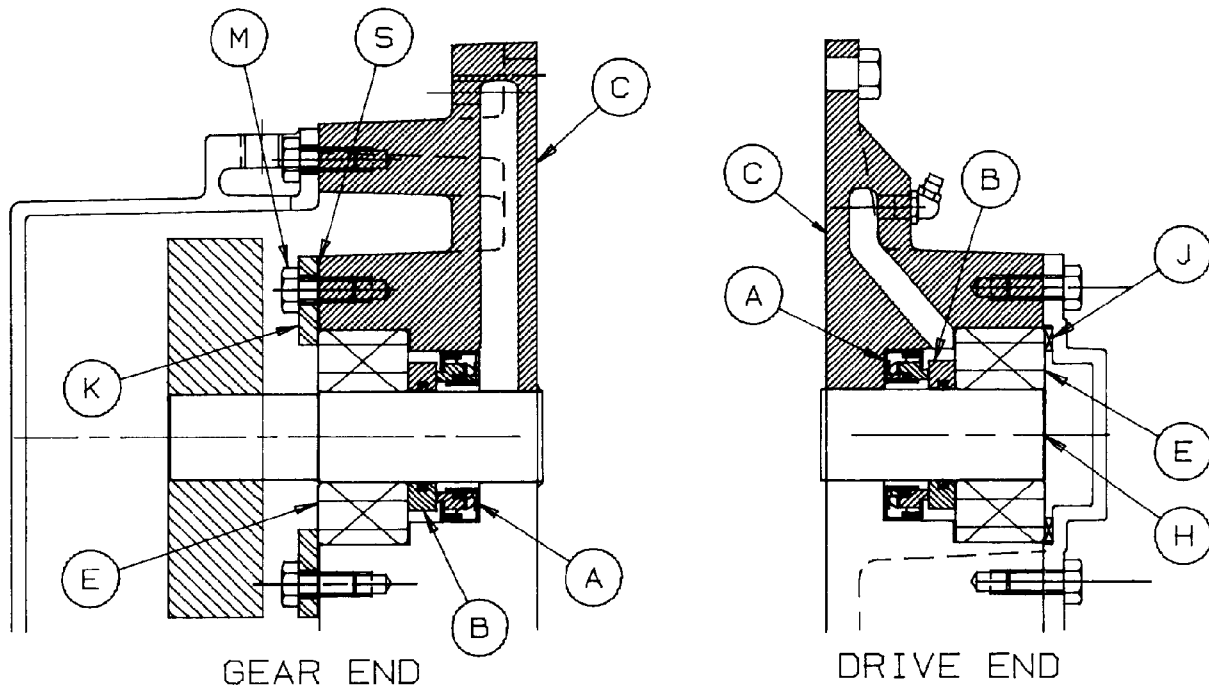

FIGURE 18
- B. Refer to FIGURE 18. Install mechanical seal (A) into the headplate bore (C) using a press and the correct driver shown on page 14. Drive the seal securely on to its seat.
- A. Refer to FIGURE 18, page 18. Lightly coat the impeller shaft (H) and the inside diameter of the mating ring (B) with assembly lubricant.
- B. Install the mating ring (B) on the shaft only far enough to get the bearing (E) started on the shaft.
- C. Lightly lubricate the bearing inner race (E) with a light oil or grease.
Refer to FIGURE 18, page 18. The gear end bearings are held in position by the force created by the wavy spring (J) on the drive end and the bearing retainer (K)